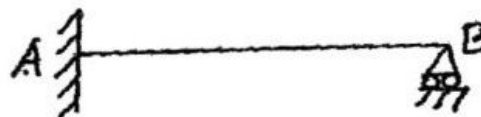

Figure 2
- (b) Using Muller Breslau's principle, draw the influence line diagram for the reaction at B for the propped cantilever AB of span 20 m (Figure 2). Compute the ordinates at interval of 2.5 m.